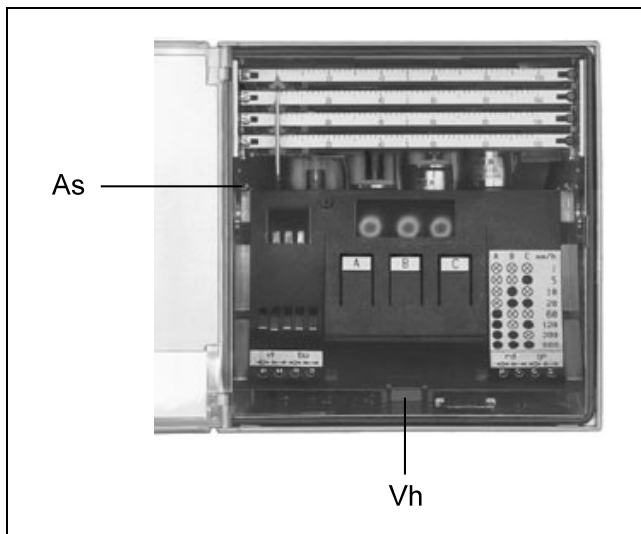

Fig. 14 As Retaining screw
3. Lift the locking lever *Vh* (see fig. 14) and simultaneously pull forward the module.